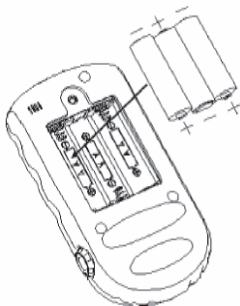

Figure 2-2
- If AA alkaline batteries (non-chargeable) are provided, then according to the polarity mark, insert three AA batteries into battery house, as shown in Figure 2-2.